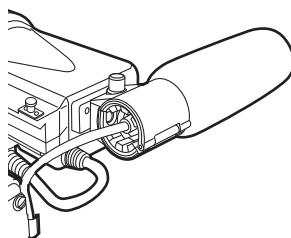

Fig. 2
- 2 Attach the microphone and tighten the clamping screw. (Fig. 2)